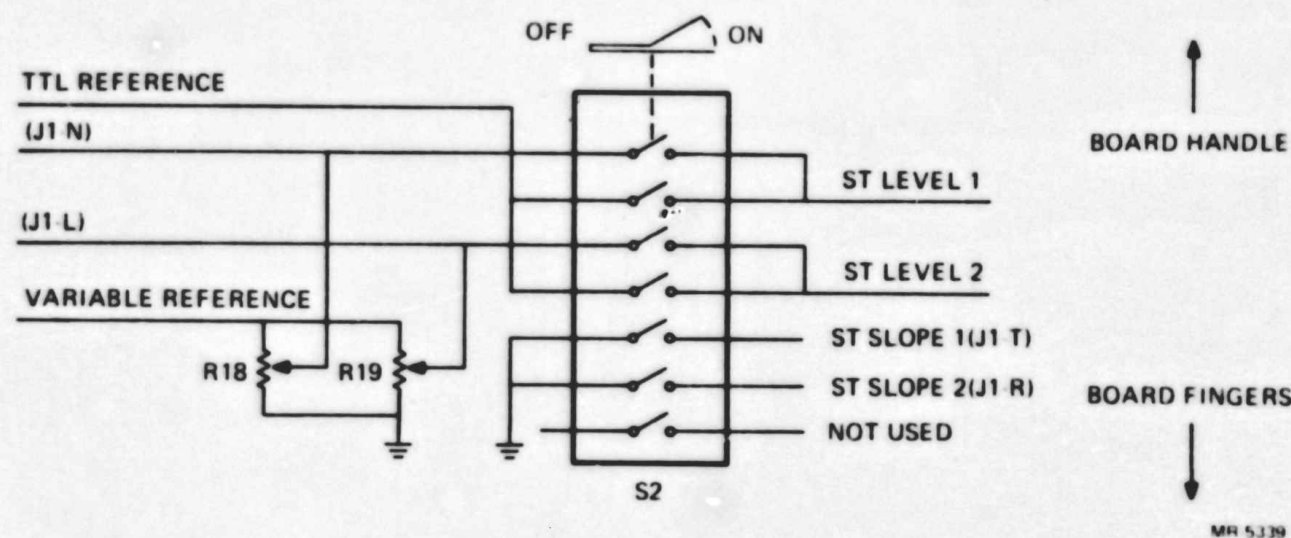

Figure 3-13 Input Reference and Slope Selection Switch
Another switch pack, S2, sets the Schmitt trigger input slope and level conditions, as shown in Figure 3-13. Refer to Table 3-2 to set switch S2. Two reference modes are selectable for each Schmitt trigger: one sets a fixed level compatible with TTL logic, and the other selects a variable level that permits the setting of the Schmitt trigger (ST) threshold to any voltage between -12 V and $+12\text{ V}$. R18 or R19 sets this reference level.